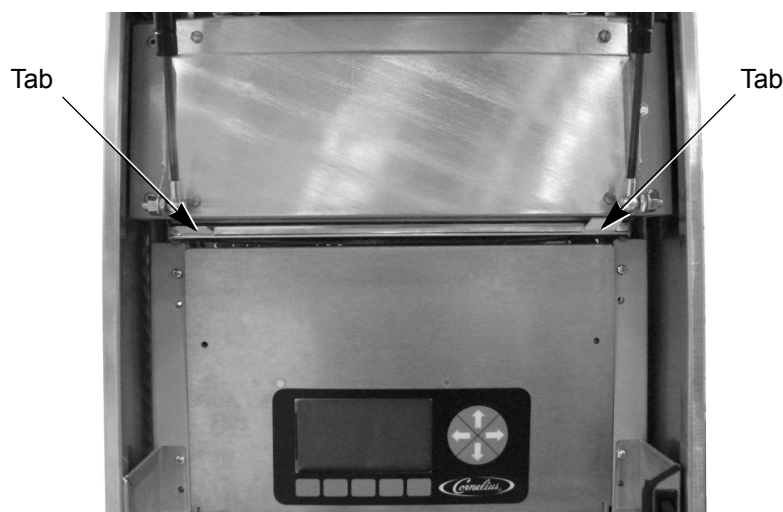

Figure 33. Air Filter Location
2.	Remove the filter, shown in Figure 33, by grasping the two tabs and sliding it straight out the front of the unit.